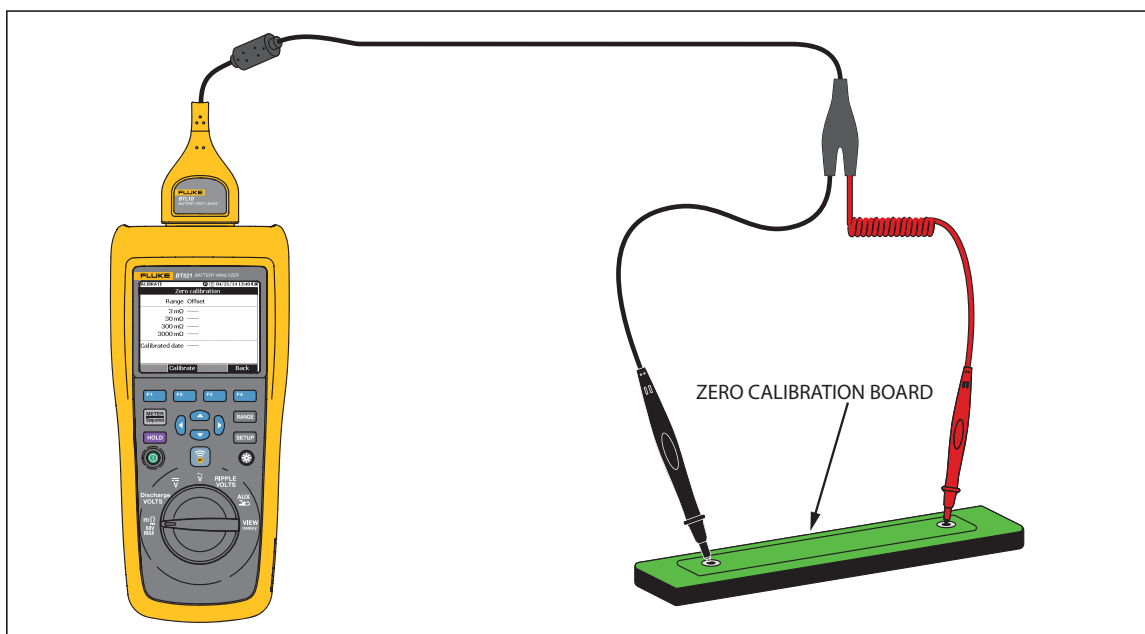

Figure 4-5. Zero Calibration Setup
1. Locate the zero calibration board on a flat surface horizontally. See Figure 4-5.